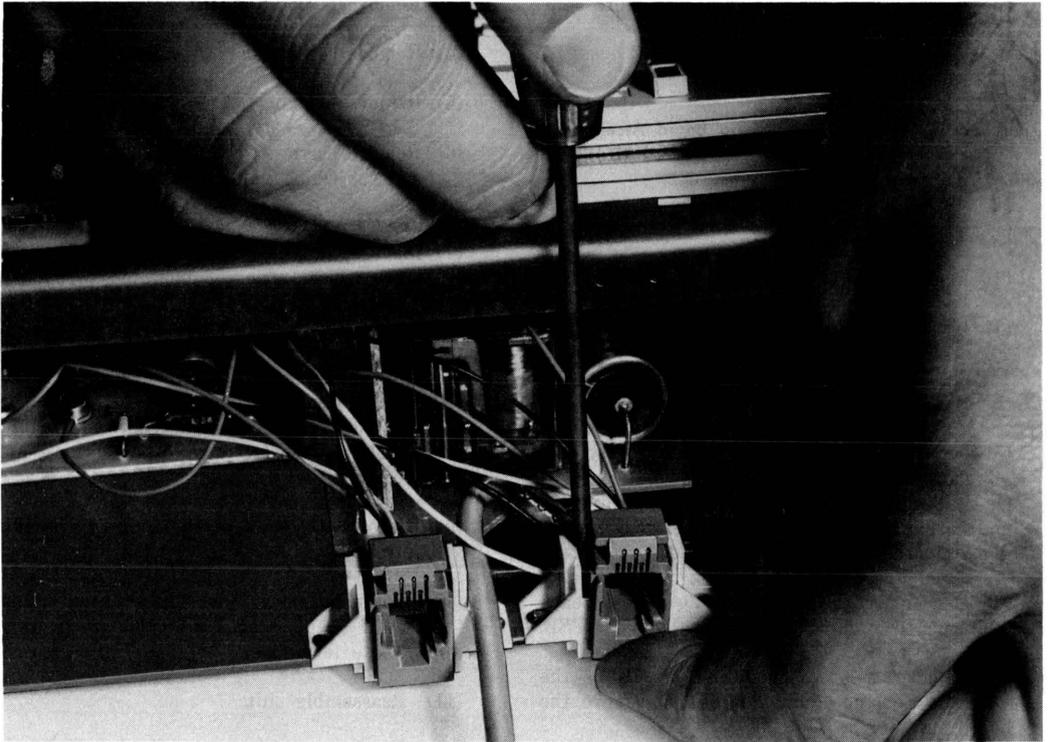

Fig. 6—Removing Mounting Cord or Interface Cord Jack from Dial Base
- (1) Disconnect power unit from AC outlet.
- (2) Disconnect mounting cord and interface cord from mating jacks in adjunct dial.
- (3) Remove faceplate (3.10).
- (4) Remove cover [6.05 (3) or 6.06 (3)].
- (5) Remove housing (3.11).
- (6) Remove 4 screws (located adjacent to housing screws) which hold upper chassis to lower chassis.
- (7) Move upper chassis toward front of unit to expose jack, which is mounted to back of lower chassis.
- (8) To release snap of the retainer, carefully slide blade of a thin-bladed screwdriver (KS-6854 or smaller) down between right side of jack and retainer, (as viewed from front of set), while pushing up on bottom of jack, and remove jack (Fig. 6).
- (9) Disconnect leads from appropriate PSB terminals.
- (10) To install new jack, slip it into retainer until snap engages and connect leads to appropriate terminals.
- (11) Reassemble unit.